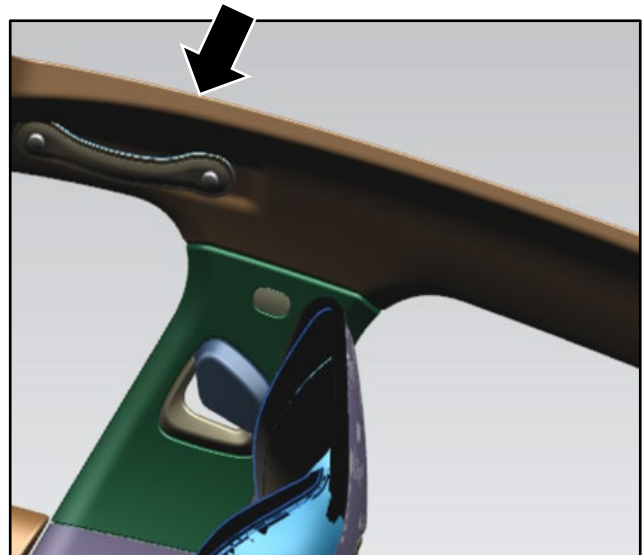

Figure 1
1. Find the headliner clipping point on the B pillar (refer to Figure 1).